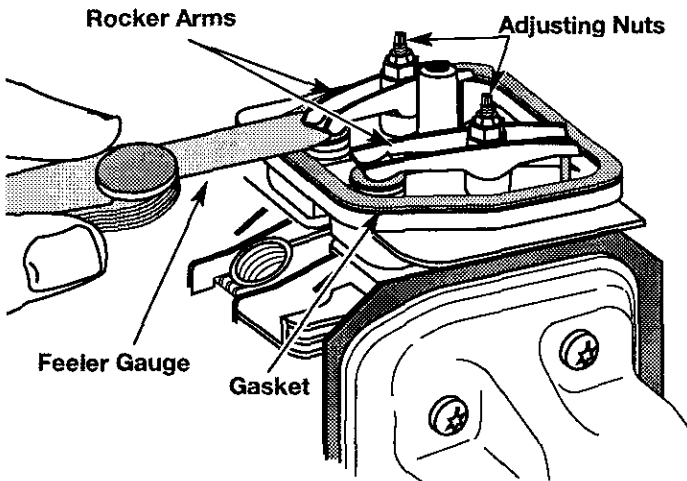

Fig. 42
9. Slide the feeler gauge between the rocker arm and the valve return spring. Measure the clearance between the valve stem and rocker arm (Fig 42). Do both intake and exhaust valves.
- Turn the adjusting nut using a 5/16 inch (8 mm) wrench or nut driver (Fig. 42).